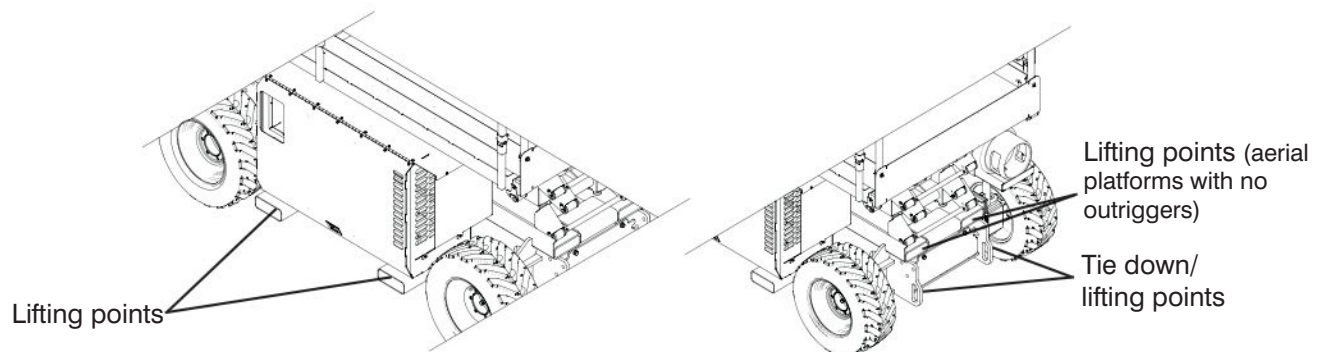

Figure 2-16. Tie Downs/Lifting Points
- The lifting/rigging may be attached to all twelve lifting points as illustrated in Figure 2-16.
**When transporting, the aerial platform must be secured to the truck or trailer deck. Tie downs are available as illustrated in Figure 2-16.**